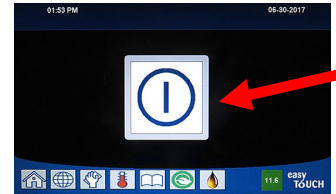

Figure 13
1. Ensure **ALL** controllers are **OFF** and in standby mode (see Figure 13).